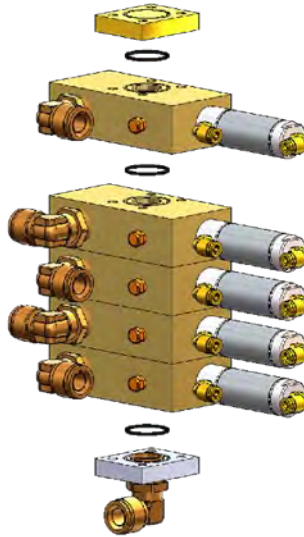

Figure 100. PF Valve R&R
2. Remove O-ring. (The O-ring may be on the blank plate or on the failed valve; see Figure 100.)
3. Simultaneously using 7-16-in wrench and needle nose pliers, remove **ONLY** top most PF valve mounting screws and spacers. See Figure 100.
5. Remove O-ring. (The O-ring may be on the failed valve or on the valve at the top of the stack; see Figure 100.)
7. Remove O-ring. (The O-ring may be on the cover or on the failed valve; see Figure 100.)
8. Simultaneously using 7-16-in wrench and needle nose pliers, remove **ONLY** bottom most PF valve mounting screws and spacers. See Figure 100.
10. Remove O-ring. (The O-ring may be on the failed valve or on the valve at the bottom of the stack.) See Figure 100.
- H. Remove top and bottom O-rings. (The top O-ring may be on the blank plate or on the top valve; the other O-ring may be on the cover or on the bottom valve; see Figure 100.)
- D. At top of stack, install a new O-ring on PF valve. See Figure 100.